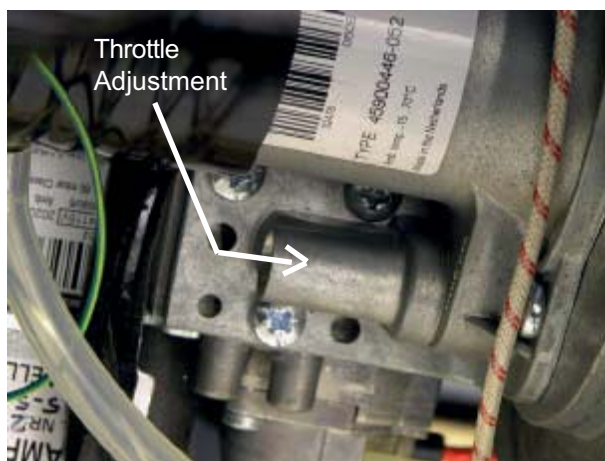

Fig 9.1
To check, re-establish gas and electricity and then run the Heater for at least 5 minutes. If adjustment is required remove the cover over the Throttle screw and turn anti-clockwise to increase CO2, clockwise to decrease.(Fig. 9.1) Allow at least a minute between adjustments to obtain stable readings. The Gas Rate will be correct when the CO and CO2 figures are to specification.
- Release the Gas Valve from the Venturi by undoing three screws. (See Fig.9.1)
- After five minutes check the rate and combustion is correct to the Datatable. (inside Front cover). Adjust using the Throttle Screw on the Gas Valve clockwise to decrease CO2, anti-clockwise to increase CO2. (Fig. 9.1)